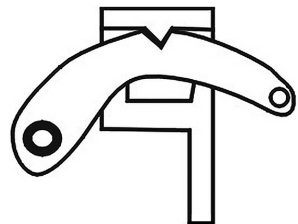

Fig. 1
3. Lift the reversing latch (#17) to the UP position and ensure it is locked in place, with the reversing switch's tooth firmly engaged in the notch on the reversing latch. Refer to Fig. 1.